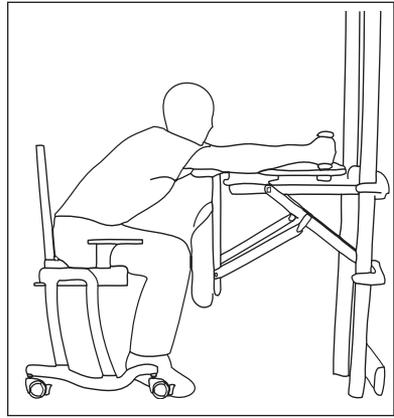

Figure 7a. The user approaching the trunk board and reaching out for the handholds.
- Wheel the client to the support station facing the padded concave trunk board (see Figure 7a).